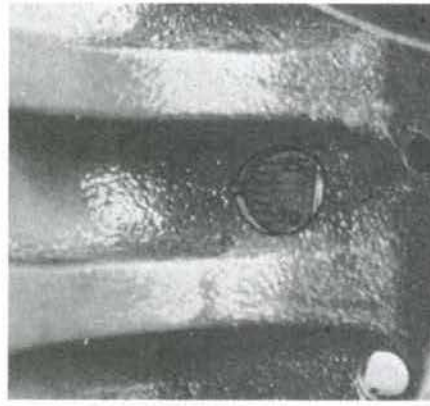

Fig. 55—Ignition timing marks on flywheel are visible through timing hole as shown.
**53. TIMING.** Timing marks are located on flywheel with a timing window on left side of engine block as shown in Fig. 55. Initial (static) timing should occur at 8 degrees BTDC. Maximum advance should be 27 degrees (crankshaft) at 2200-2250 engine rpm; 28 degrees (crankshaft) at 2425-2500 engine rpm. These rpm ratings are the recommended high idle no-load governed speeds for MF230 models (2200-2250 rpm); MF235 and MF245 models (2425-2500 rpm). Firing order is 1-3-4-2. Distributor shaft rotation is counterclockwise viewed from above (rotor end).
To install distributor, be sure breaker point gap is 0.43-0.56 mm (0.017-0.022 inch) which should provide dwell of 66-72 degrees. Turn crankshaft slowly until number one piston begins coming up on compression stroke, then stop when 8 degree BTDC mark is visible in timing hole (Fig. 55). Install distributor with rotor pointing toward number one spark plug. The distributor body should be rotated until wire to coil is straight to rear. Install distributor clamp finger tight. Turn distributor clockwise until